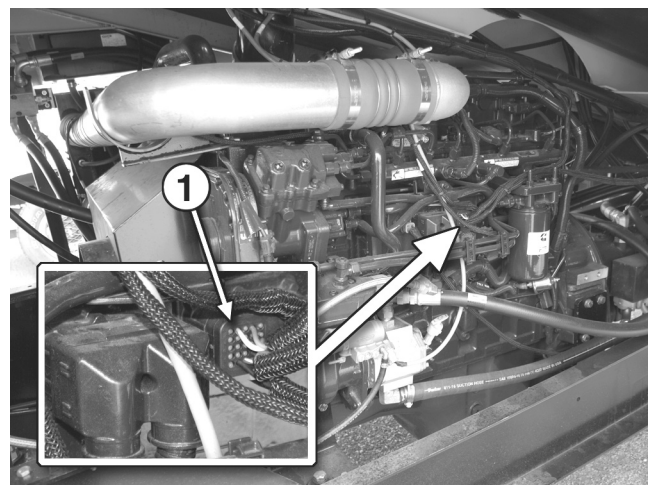

Figure 16. Engine Left Side
2. Disconnect the 50 pin connector at the engine, so that the engine can only be cranked and cannot be started. (Fig. 16)